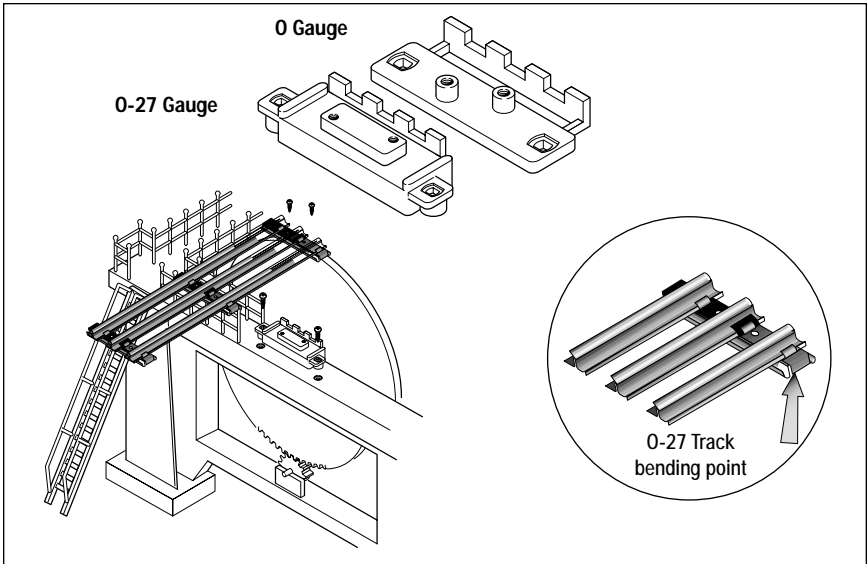

Figure 4. Track adapter and track installation
5. Use two screws to install the track adapters to the frame of the Tiptle as illustrated in Figure 4. For 0 gauge track, use the adapter labeled 0 GAUGE. For 0-27 gauge track, use the adapter labeled 0-27 GAUGE.
6. Secure the end of the track to the adapter(s) with two screws as illustrated in Figure 4.